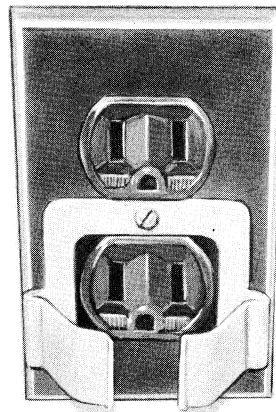

Fig. 20—841050818 Retaining Clamp Mounted on AC Outlet Box Using Outlet Cover Mounting Screw
the 85B1 power unit where additional mounting strength is needed, see Fig. 20.
**13.02** The ac input to the unit is by means of two parallel blades for use in a standard two wire receptacle which serves as the mounting device. The ac output is available through screw terminals recessed in the plastic case. A retaining clamp (84105818) is available for use with the 95B1 power unit where additional mounting strength is needed, see Fig. 20.
**Danger:** For safety, securely attach retaining clamp to ac outlet using outlet cover screw **BEFORE** attempting to install 95B1 power unit. See Fig. 20. When removing 95B1 power unit, always unplug the power unit completely from the outlet **BEFORE** attempting to remove the retaining clamp. This will prevent the possibility of a loosened retainer clamp or metallic outlet cover making contact with the ac prongs of the 95B1 power unit when partially withdrawn from outlet. Do not use in 841050818 or similar retaining clamps on outlets where the cover mounting screw holds the duplex outlet in the box.